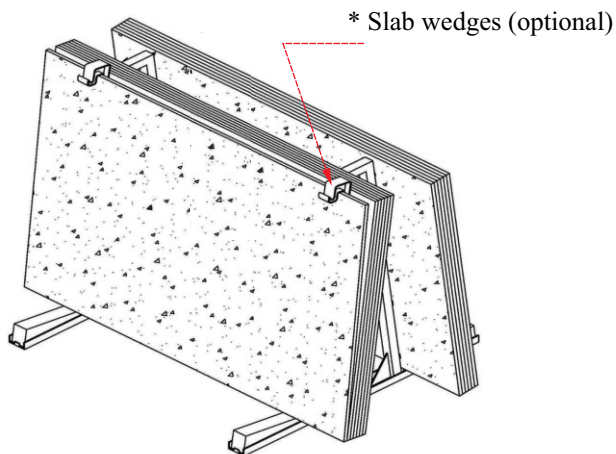

Figure 2.1
Step 2: Use slab wedges* to make a gap between the outer slab and the inner slab (Figure 2.1).